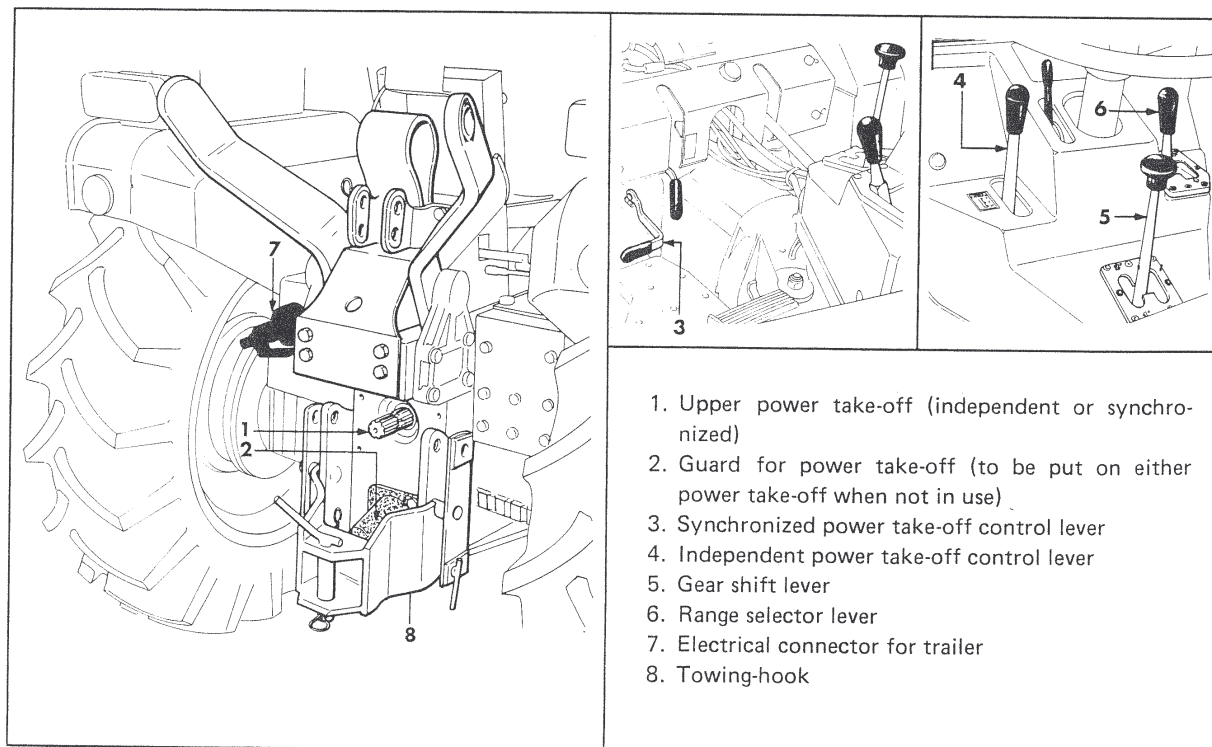

Figure 10. Power take-off and controls
The tractor is equipped with two power take-off (see fig. 10).
The synchronized power take-off is driven by the bevel pinion of the rear axle when the relating control lever is engaged (fig. 10, detail 3).
The control lever is located on right hand side of the rear axle box (see fig. 10).
2. Engage power take-off in the desired speed by bringing the proper lever (fig. 10) to position I (Low speed) or to II (High speed).
4. Engage the synchronized power take-off control lever as described and shown (see fig. 10).
The towing hook can be located either under or above the power take-off (location shown in fig. 10).